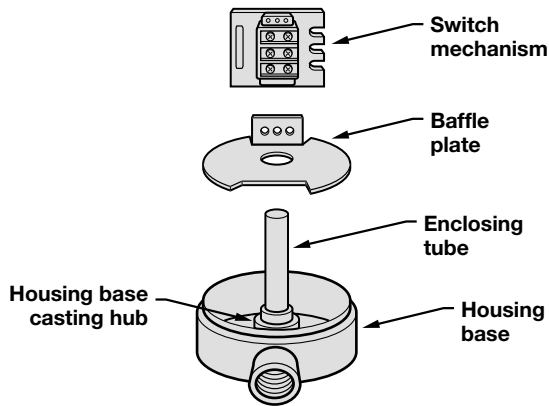
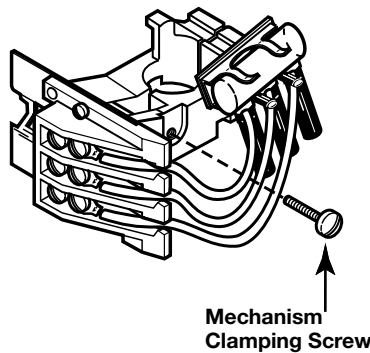
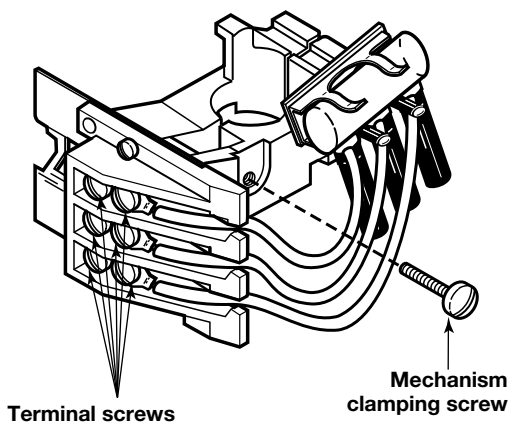

Figure 18
Figure 19
Figure 21
4. Make sure the switch mechanism is seated all the way down on the baffle plate. Refer to Figure 18. Additionally, check that the mechanism clamping screw is tightened to assure that the mechanism is secured to the enclosing tube and in proper position on the baffle plate. Refer to Figure 19. The baffle plate should rest on the housing base casting hub.
6. Vibration may sometimes cause terminal screws to work loose. Check all terminal connections to be certain that screws are tight. Refer to Figure 21.
4. Make sure the switch mechanism is seated down on the baffle plate. Refer to Figure 18 on page 17. Additionally, check that the mechanism clamping screw is tightened to assure that the mechanism is secured to the enclosing tube and in proper position on the baffle plate. Refer to Figure 21. The baffle plate should rest on the housing base casting hub.